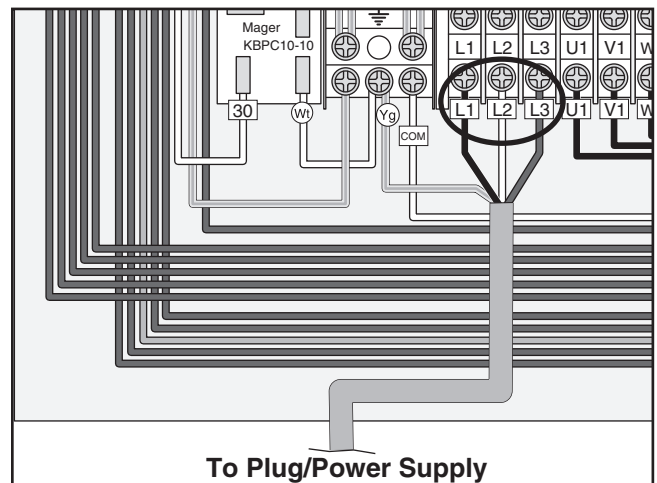

Figure 9. Ground and hot wires connected.
4. Connect the incoming hot wires and ground wire to the terminals shown in **Figure 9**.